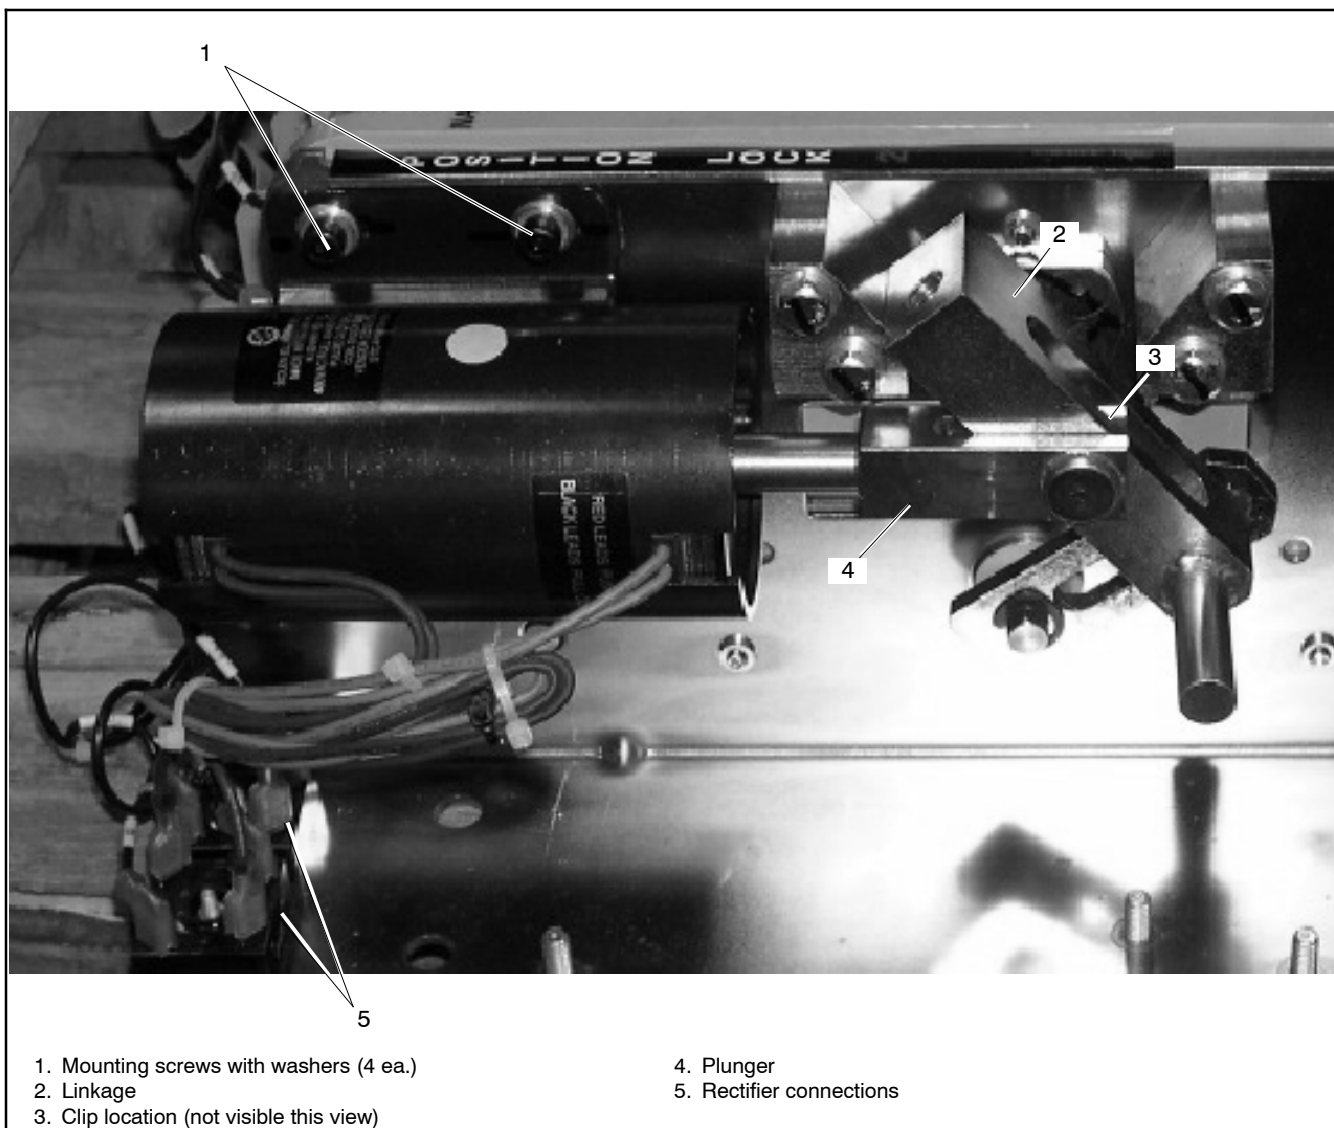

Figure 7-76 Solenoid Assembly (shown on the bench)
10. Note the rectifier connections and disconnect the AC leads. See Figure 7-76.
14. Hold the solenoid coil firmly and remove the four screws and washers. See Figure 7-76.
18. Place the new solenoid assembly into position, aligning the linkage pins with the mechanism slots. See Figure 7-76.